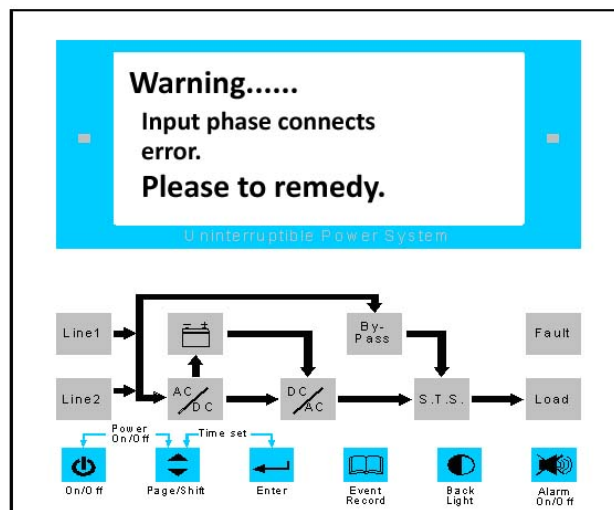
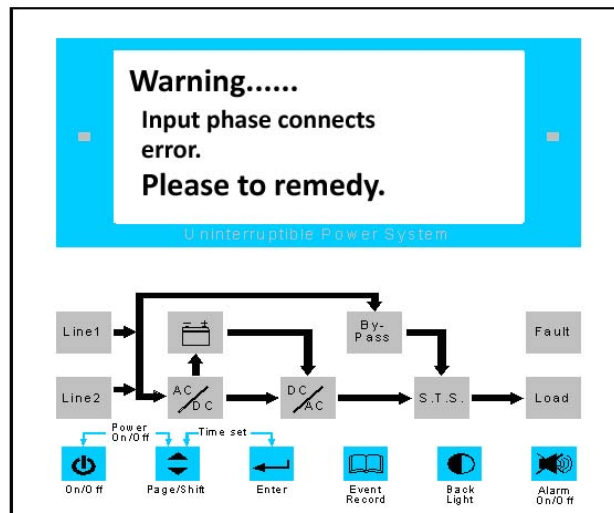

Figure 31 : Incorrect Phase Rotation Screen
Figure 32 : Phase Angle Shift Screen
*** Note: If the UPS beep continuously and LCD show as Figure 31 or Figure 32, please check the utility AC power input wiring phase rotation or phase angle.**
If the utility AC power input wiring phase rotation is incorrect, the UPS will beep continuously, the screen will flash and the screen will have warning message as Figure 31 shown.
If the utility AC power input phase angle shift, the UPS will beep continuously, the screen will flash and the screen will have warning message as Figure 32 shown.